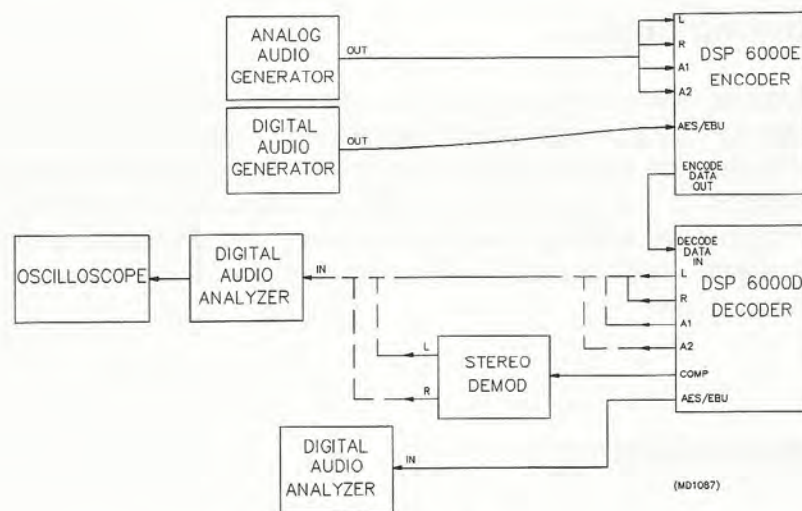

Figure 6-1
1. Set up the equipment as indicated in Figure 6-1.